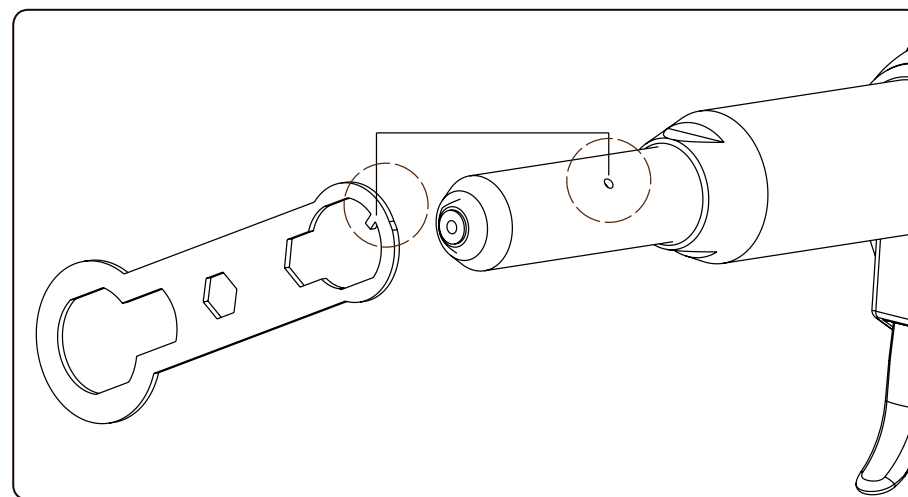

Fig. 7, location of the key stopper in the hole in the barrel.
- In the event that access to the jaws (part 3, fig.8) or another part is required, screw off the barrel using the supplied key. In order to be able to screw out the barrel, the tab on the key must be inserted into the hole on the barrel as a stopper (fig. 7). Prior to replacing the part, press and release the trigger. Ensure that the parts in the barrel of the rivet gun are sufficiently lubricated, especially after their replacement. Industrial Vaseline must be used for lubrication.